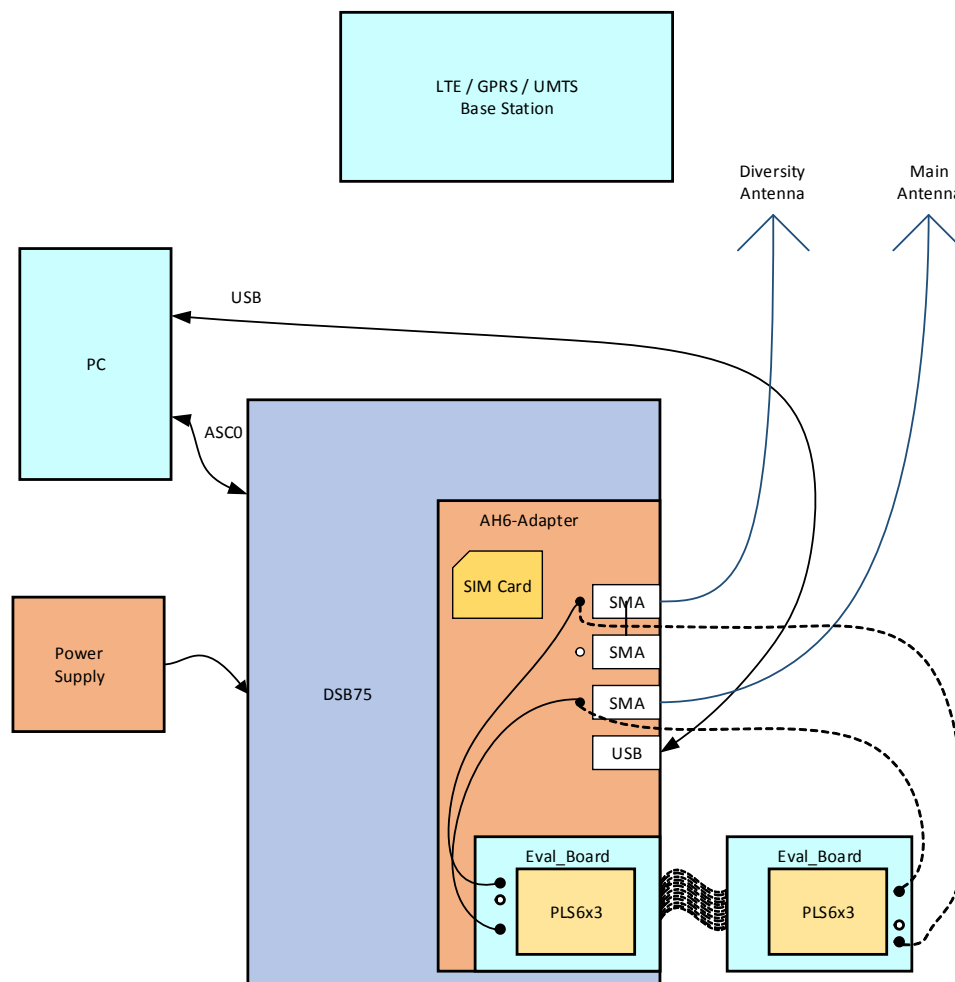

Figure 45: Reference equipment for Type Approval
1. For RF performance tests a mini-SMT/U.FL to SMA adapter with attached 6dB coaxial attenuator is chosen to connect the evaluation module directly to the GSM/UMTS test equipment instead of employing the SMA antenna connectors on the PLSx3-DSB75 adapter as shown in Figure 45. The following products are recommended: